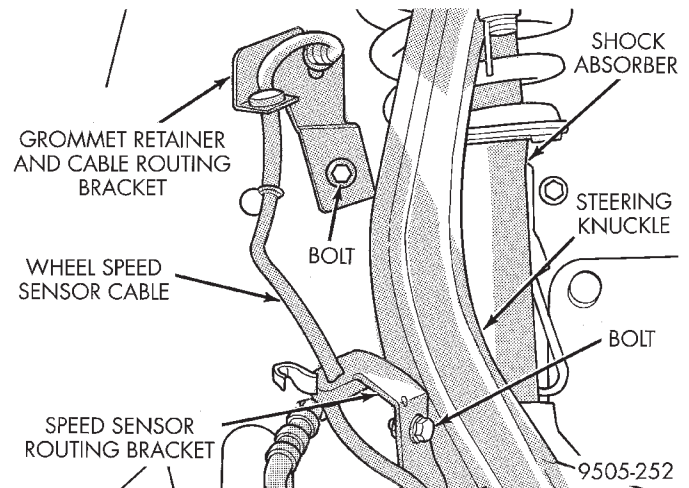
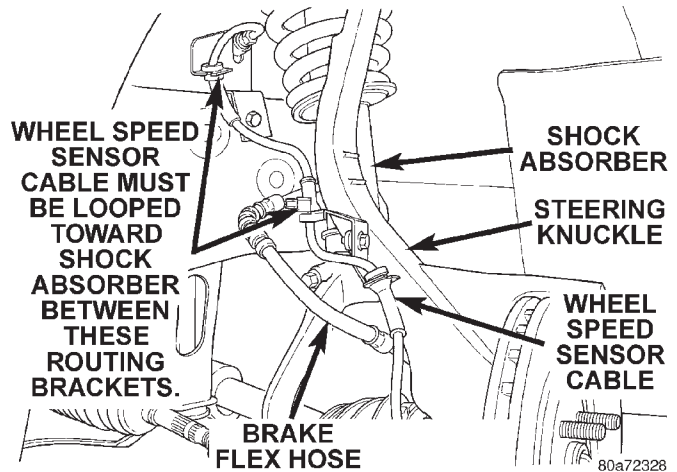

Fig. 31 Speed Sensor Cable Routing Brackets
Fig. 35 Correct Front Wheel Speed Sensor Cable Routing
(1) Raise vehicle on jack stands or centered on a frame contact type hoist. See Hoisting in the Lubrication and Maintenance section of this manual, for the required lifting procedure to be used for this vehicle.
(2) Remove the tire and wheel assembly from the vehicle.
(3) Remove the speed sensor cable routing bracket (Fig. 31) from the steering knuckle. Remove the wiring harness sealing grommet retainer and speed sensor routing bracket from the inner fender.
(2) Install the speed sensor cable assembly grommet into the front inner fender (Fig. 31). Install speed sensor cable grommet retainer/routing bracket on the inner fender of the vehicle and install and securely tighten attaching bolt (Fig. 31).
CAUTION: When installing the wheel speed sensor cable routing bracket on the steering knuckle, (Fig. 31) the speed sensor cable must be looped toward the shock absorber as shown in (Fig. 35). If speed